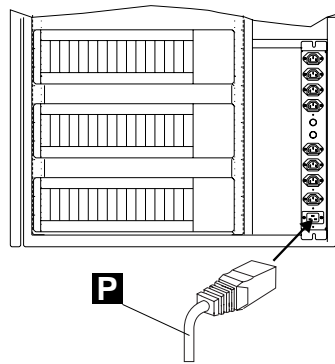

Figure 1-13. Power Cord for Power Strip
21. ____ If it is not already plugged, connect the main power cord **P** coming from the ac outlet distribution box to the customer receptacle (refer to Figure 1-13 on page 1-18).